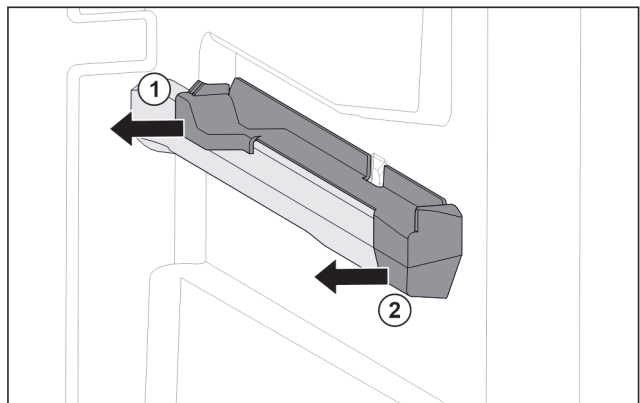

Fig. 140 Attachment on the right moulded rib
- ▶ Pull off attachment at the back sideways. Fig. 140 (1)
- ▶ Pull off attachment at the front sideways. Fig. 140 (2)